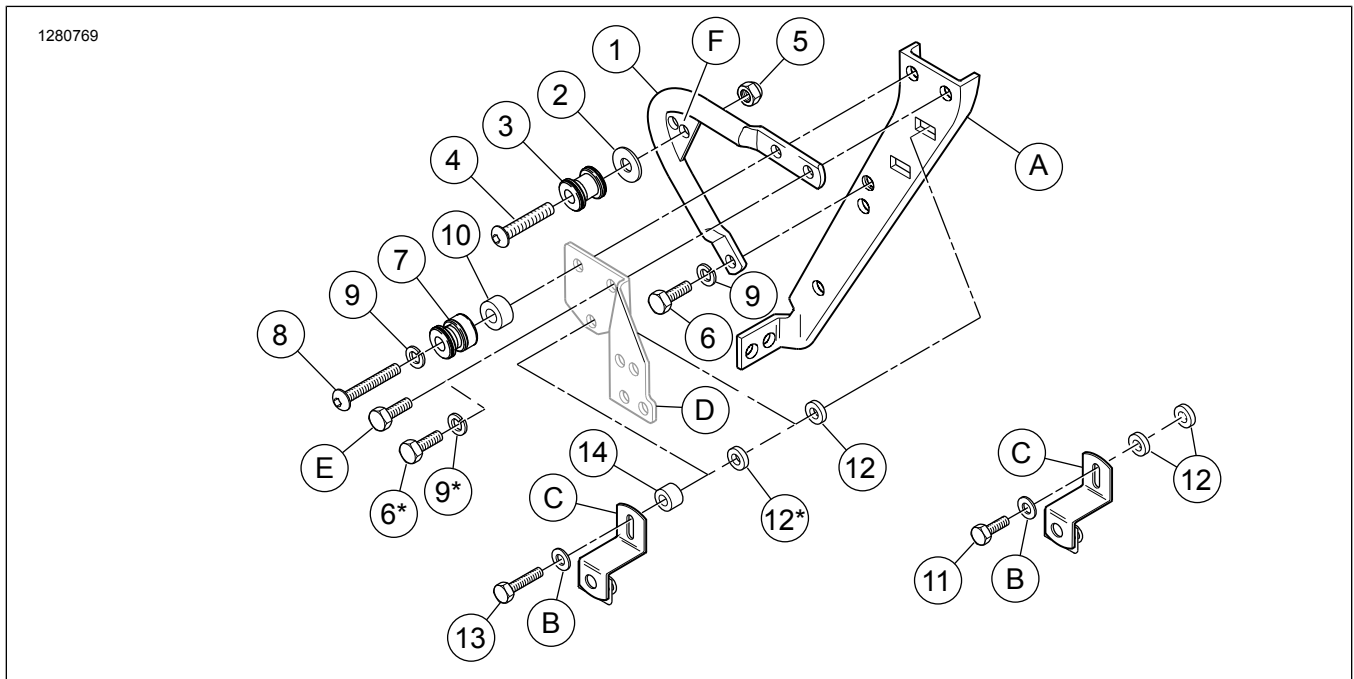

Figure 1. Kit Contents: Rear Docking Kit
Figure 1 shows the docking point locations for the Front Docking Kit (53803-06) and Rear Docking Kit (53804-06).
3. See Figure 1. Remove OE fasteners in upper two holes of saddlebag support bracket (A) on one side of vehicle. The stock fasteners thread into weld nuts in the support bracket.
4. Remove saddlebag mounting bracket (C). Save bracket and flat washer (B) for kit installation.
See Figure 1. The rear docking point mounting brackets (1) are side specific. The mounting surfaces at each end of the tube are offset toward the fender.
4. If necessary, adjust mounting brackets (1) for proper width by gently squeezing or spreading brackets until properly aligned with accessory.
5. See Figure 1. Install the OE saddlebag mounting bracket as described in next section.